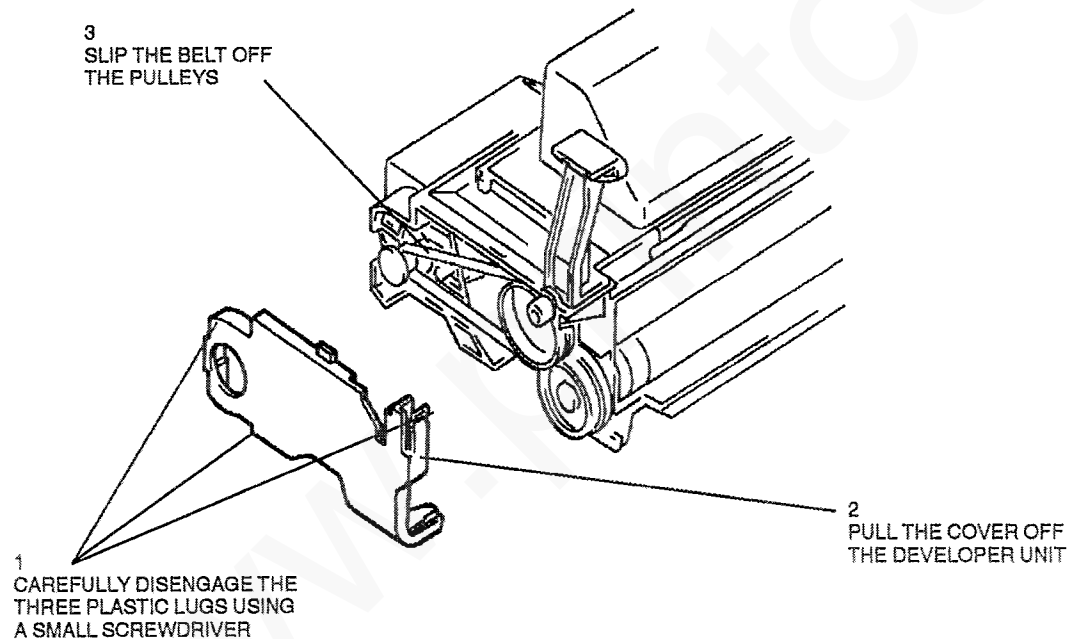

Figure 1. Toner motor belt removal
3. (Figure 1) Remove the toner motor belt.